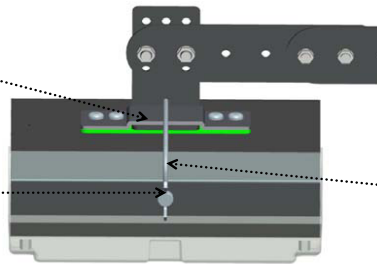

FIG.3
2. There is a mounting port on the top of the LED head. Insert the port to the bracket, and then attach the metal cord (already with one end attached to the bracket) to the LED head, by fixing it to a screw hole on the side of the LED head, using a butterfly screw (provided). **If the metal cord is not tight, adjust the length of it and make sure it's tight, such that the LED head is firmly locked with the bracket.** The butterfly screw can be used without tool (see FIG 3).